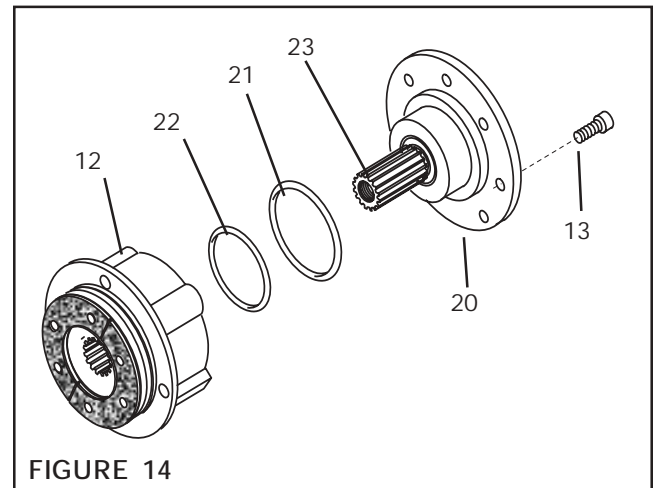

FIGURE 14
2. Remove the four remaining Socket Head Cap Screws (Item 13) and slide the Male Pilot (Item 20), Stub Shaft (Item 23), and the two Ball Bearings (Item 19) out of the Air Chamber (Item 12) (See Figure 14).
3. Remove the old O-ring Seals (Items 21 and 22) from the Male Pilot (Item 20) (See Figure 14).